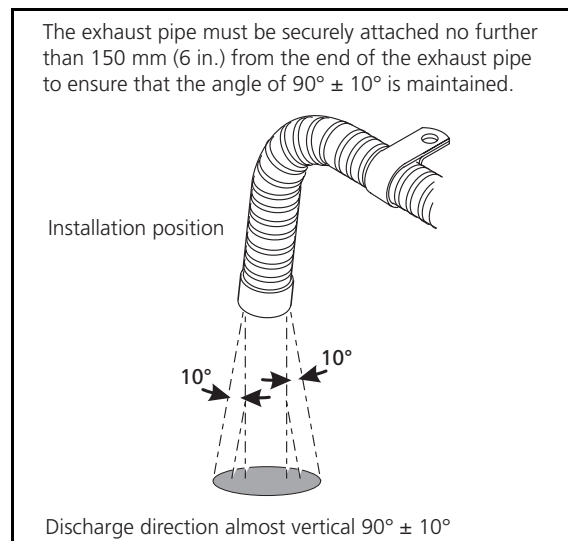

Figure 23. Exhaust pipe opening
*If the exhaust pipe ends other than as shown in Figure 23, it will pose a fire risk.*